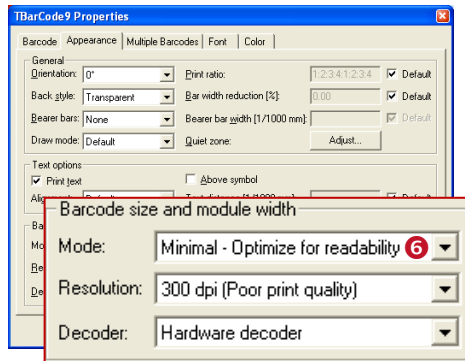

Figure 21: Barcode Optimization in TBarCode OCX (Version 1)
In the barcode generator SDK **TBarCode**, you have two different adjustments for optimization: Either you can generate the smallest possible barcode optimized for the selected decoder type and for the specified resolution (see Figure 21).
In the application specific property window (and not in the properties page as shown in Figure 21) you will find the property *OptResolution* ⑦. When set to “true” the barcode will be optimized for its predefined size.